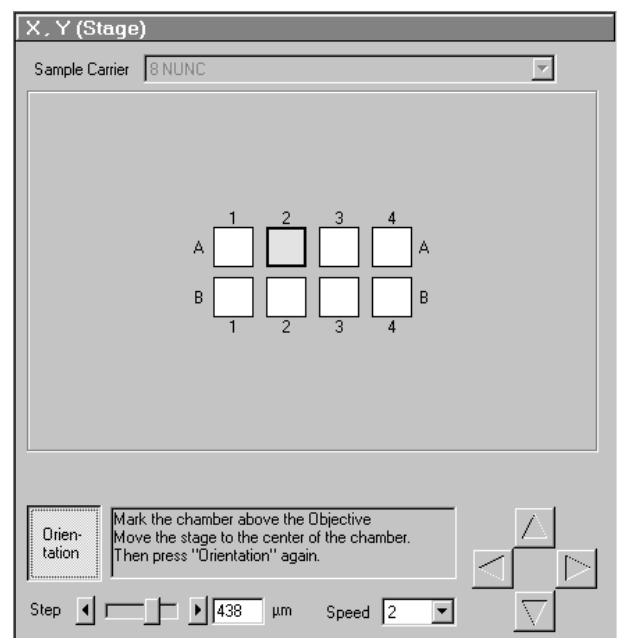

Fig. 5-167 X, Y (Stage) panel
- Now click on the **Orientation** button in the **X, Y (Stage)** panel (Fig. 5-167).